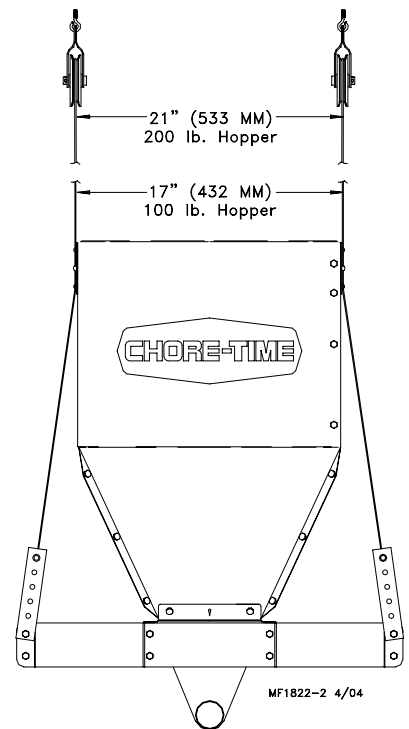

Figure 1. Suspended Hopper
Figure 1 shows a feed hopper suspension using the hopper suspension kit.
5. Install two pulley assemblies centered above desired hopper location as shown in **figures 1 and 2**. The pulleys should be installed 17" apart for a 100 lb. hopper and 21" apart for a 200 lb. hopper. This spacing will angle the suspension cables slightly and will keep the cable in the cleats of the cable guide plates.